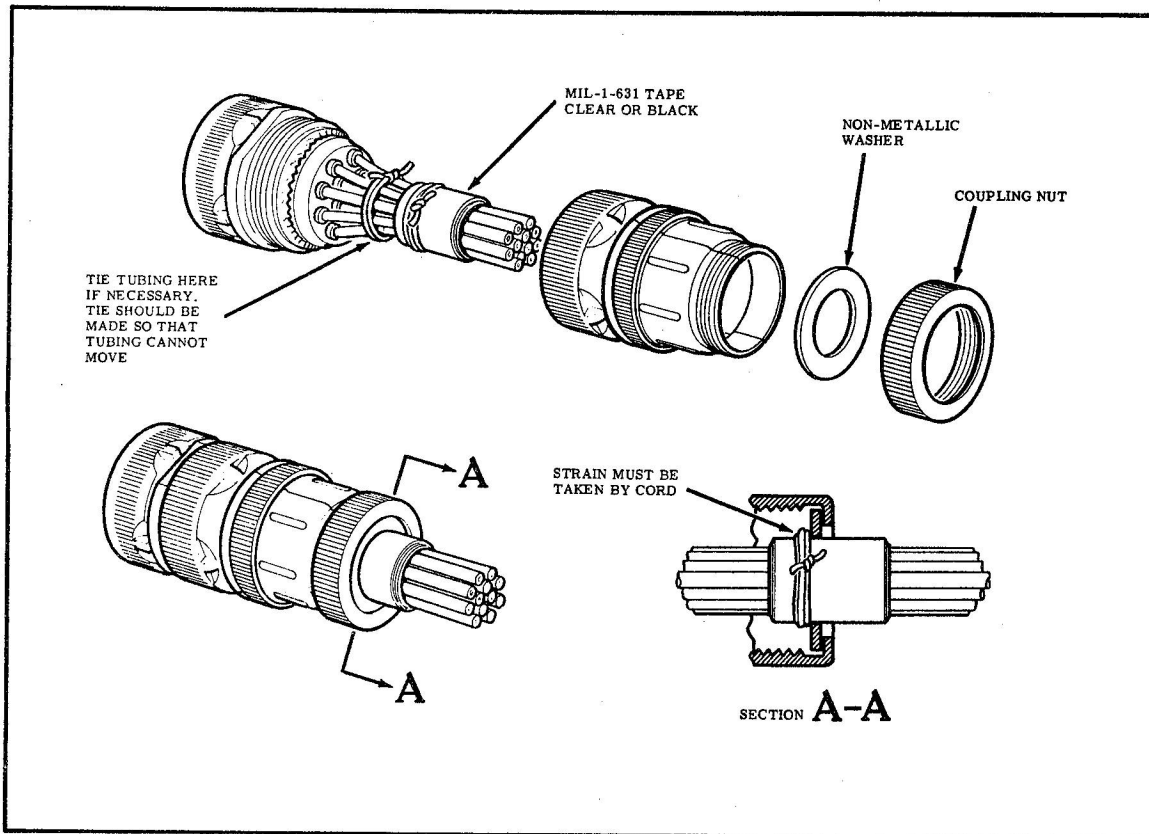

Figure 9 Connector Assembly using Washer and Nut
- (e) Tie plastic tubing securely or serve the wire bundle with cord as shown in Figure 9 to avoid slippage or insulation. Use method of tie given in paragraph 39 to 41 inclusive, following.